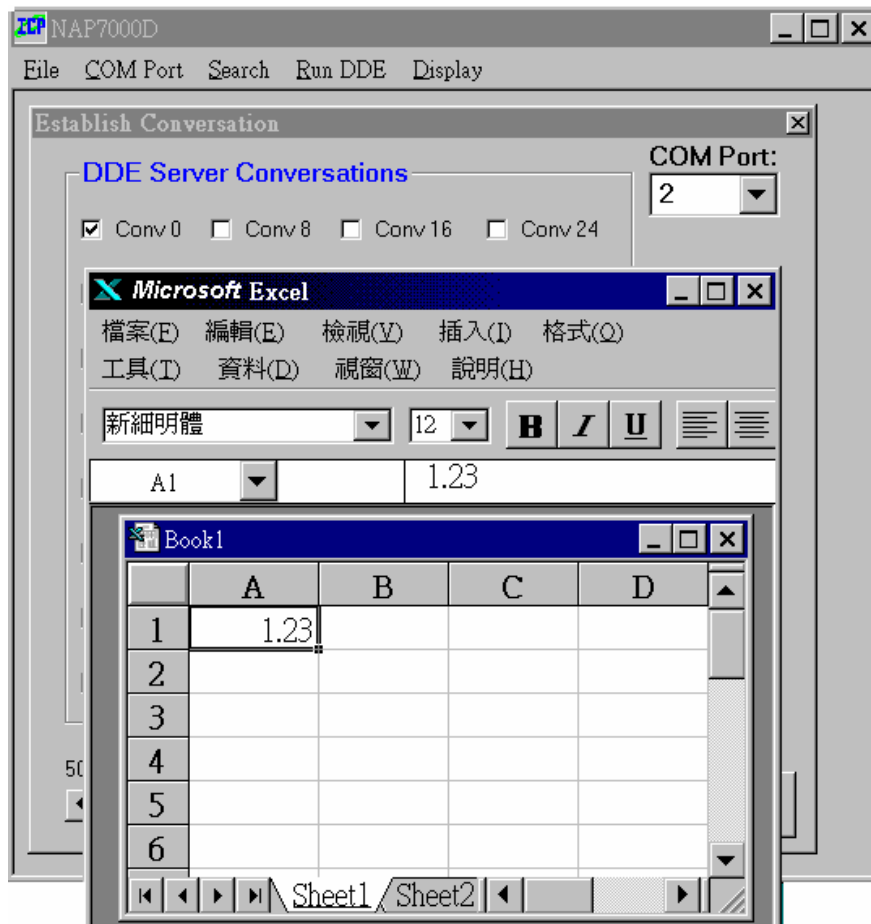

Fig 3.12.
Step 2: Activating Excel. Then entering a value in A1 cell, for examples, 1.23 as shown in Fig 3-12. It means the output voltage of CB-7021 will be 1.23V.